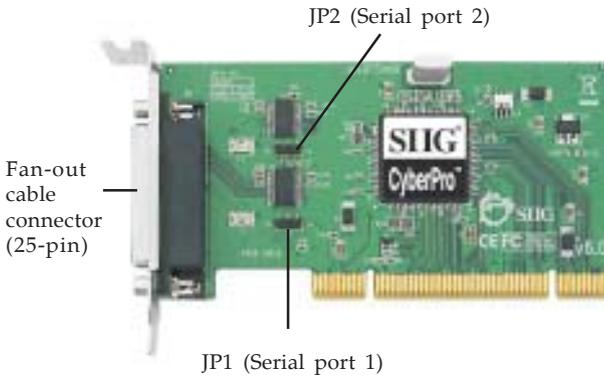

Figure 1. Layout
5. Place **JP1** and **JP2** jumper settings to the desired voltage only if your serial device needs additional power from the serial port. However, most serial devices do not require additional power. For more information see **Figure 1** on page 2.